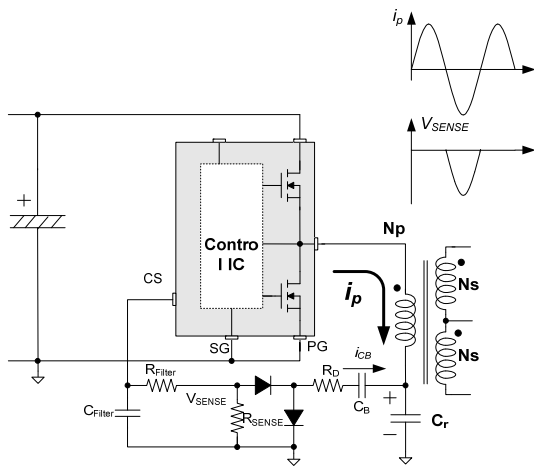

Figure 29. Capacitive Sensing
**8.2 Capacitive Sensing Method:** The drain current can be sensed using an additional capacitor parallel with the resonant capacitor, as shown in Figure 29. During the low-side switch turn on, the current,  $i_{CB}$  through  $C_B$ , makes  $V_{SENSE}$  across  $R_{SENSE}$ . The  $i_{CB}$  is scale-down of  $i_p$  by the impedance ratio of  $C_r$  and  $C_B$ . Generally, 1/100~1/1000 is adequate for the ratio of  $C_B$  against  $C_r$ .  $R_D$  is used as a damper for reducing noise generated by switching transition. Several hundreds of ohm to a few of kilo-ohms can be normally used.